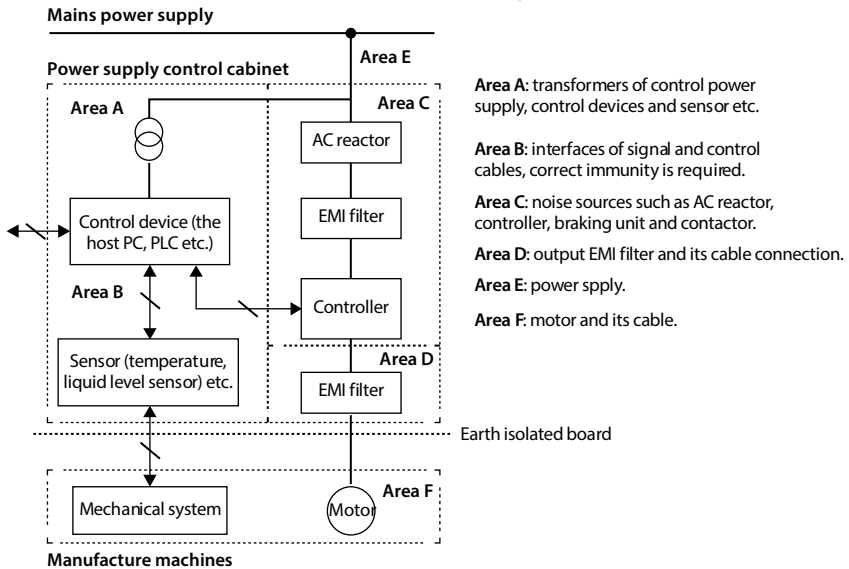

Figure 4-20 System wiring
- The mechanical/system is divided into different EMC areas according to electrical characteristics. The recommended installation positions are shown in Figure 4-20.